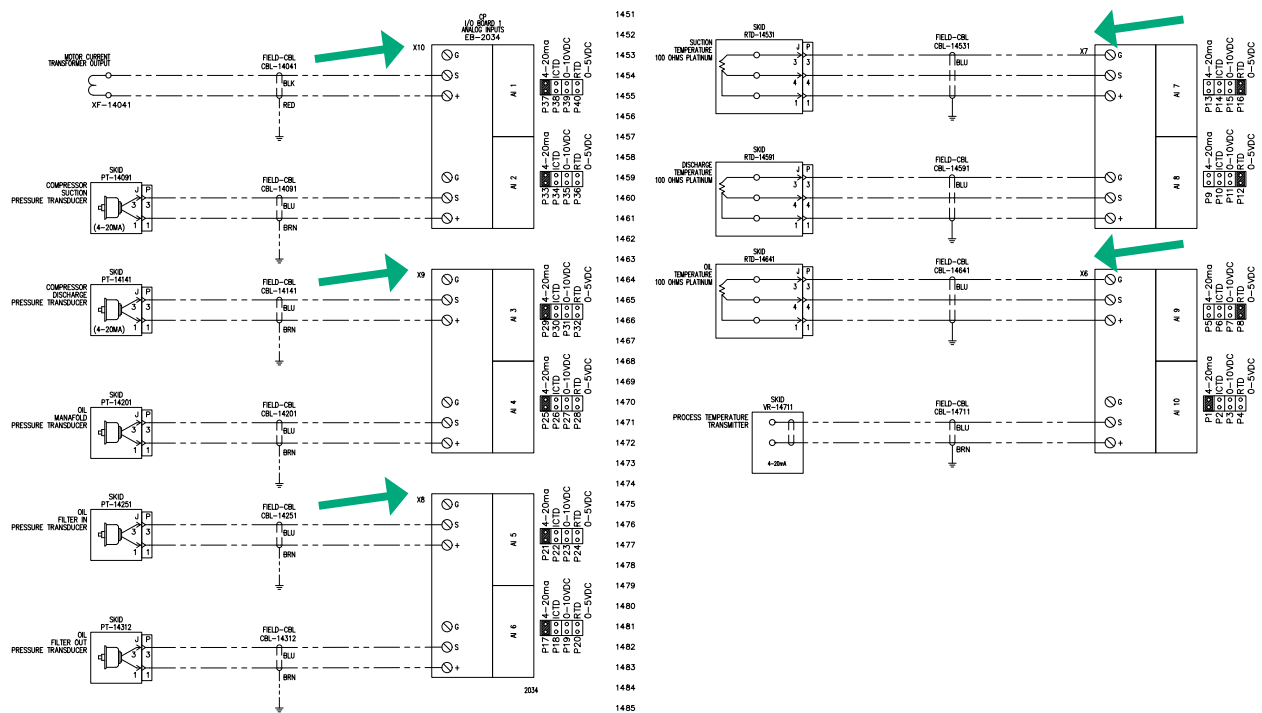

Figure 17. Analog Input Wiring
Step 3. Connecting analog inputs: take a look at the 6 orange screw terminals on the left side of the large multi Input/Output board. The arrows on Figure 17 point to X10 & X9, and the numbers decrease accordingly towards the bottom of the board. These terminals correspond to SHEET 14 of the drawing set.